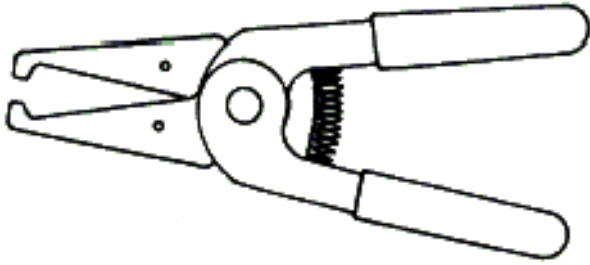

Figure 17. T-CUTTER
26. **T-CUTTER.** T-Cutter mold features hardened-steel, shear type blades that cut up to 1/2 inch fine stranded cable and AWG 10 solid wire. Its primary application is construction/maintenance production (Figure 17).